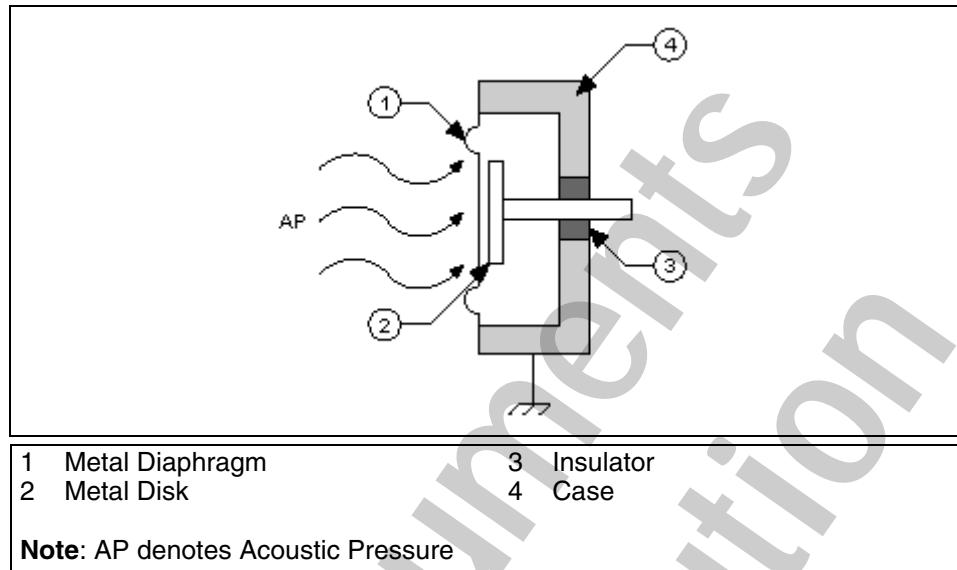

Figure 7-22. Condenser Microphone
A condenser microphone incorporates a stretched metal diaphragm that forms one plate of a capacitor. A metal disk placed close to the diaphragm acts as a backplate. When a sound field excites the diaphragm, the capacitance between the two plates varies according to the variation in the sound pressure. A stable DC voltage is applied to the plates through a high resistance to keep electrical charges on the plate. The change in the capacitance generates an AC output proportional to the acoustic pressure (AP). Figure 7-22 shows a condenser microphone.